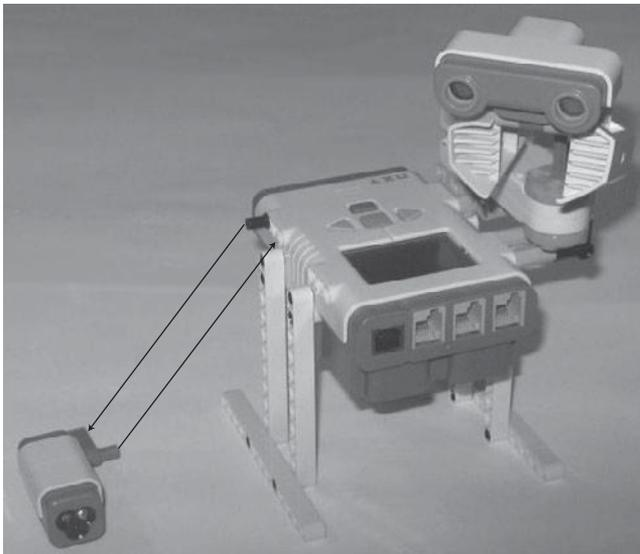

Figure 12.24
Step 3: Connect the color sensor subassembly to the robot, as shown in Figure 12.24.